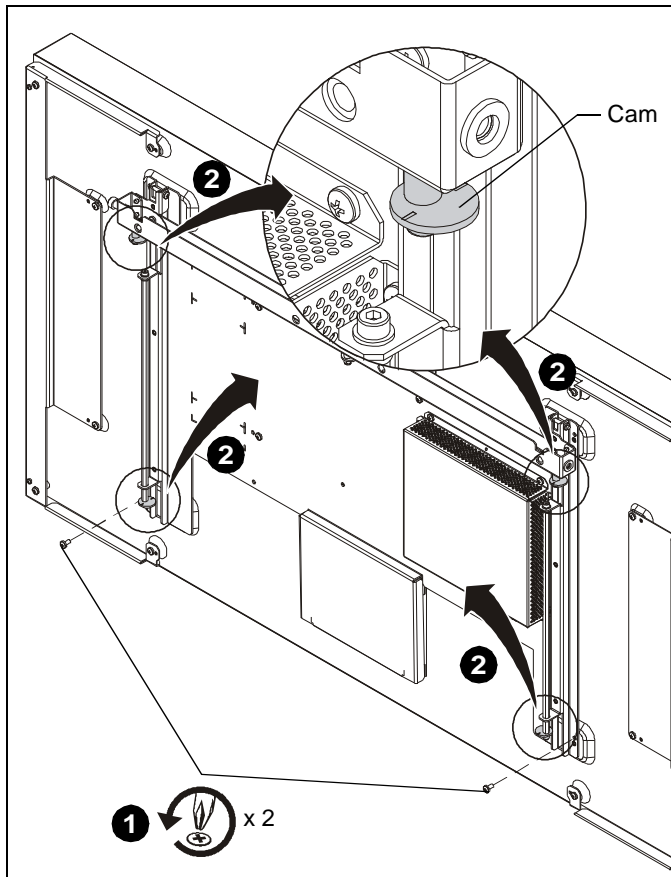

Figure 1
1. Remove one Phillips head screw from the bottom of each vertical bracket on display. (See Figure 1)
2. Adjust cam at top and bottom of each vertical bracket (following instructions included with the LX46HD-L) so the cams don't interfere when attaching the FHB interface brackets (A and B). (See Figure 1)